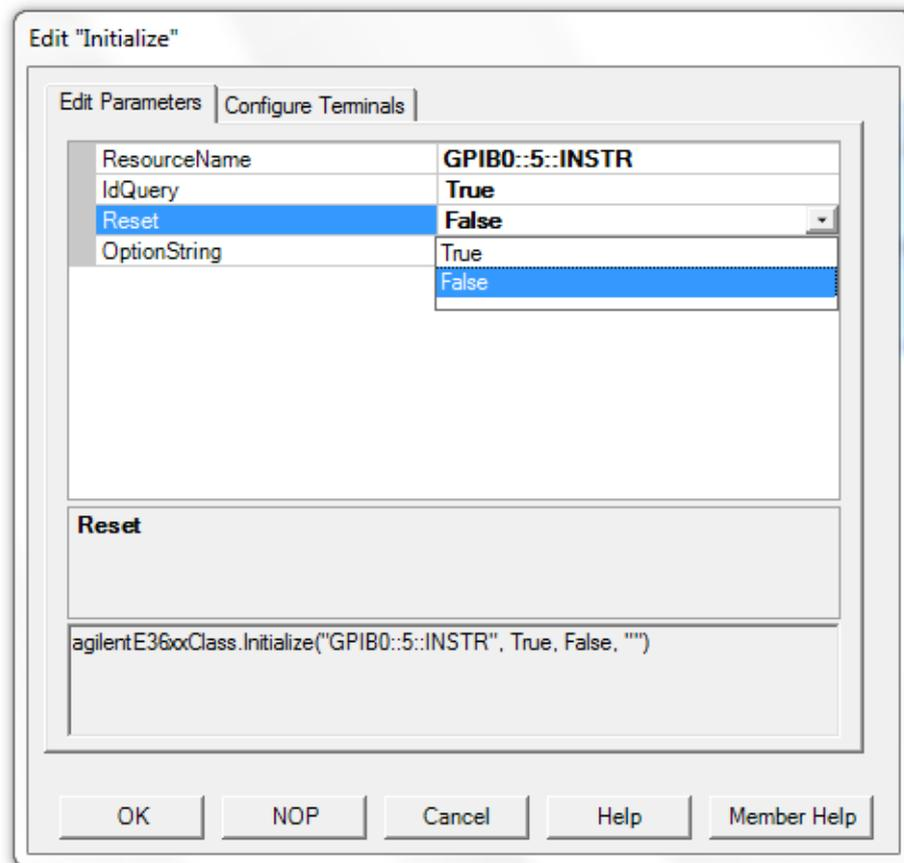

Fig. 14: Initializing IVI driver object for Agilent E3631A
9) Double click on the <Double-Click to Add Operation> bar of the **HPE3631A IVI Driver**. Select **Initialize** and Click **OK**. Set **Reset** value to **False** from the drop-down menu as shown in Fig. 14 and click **OK**.